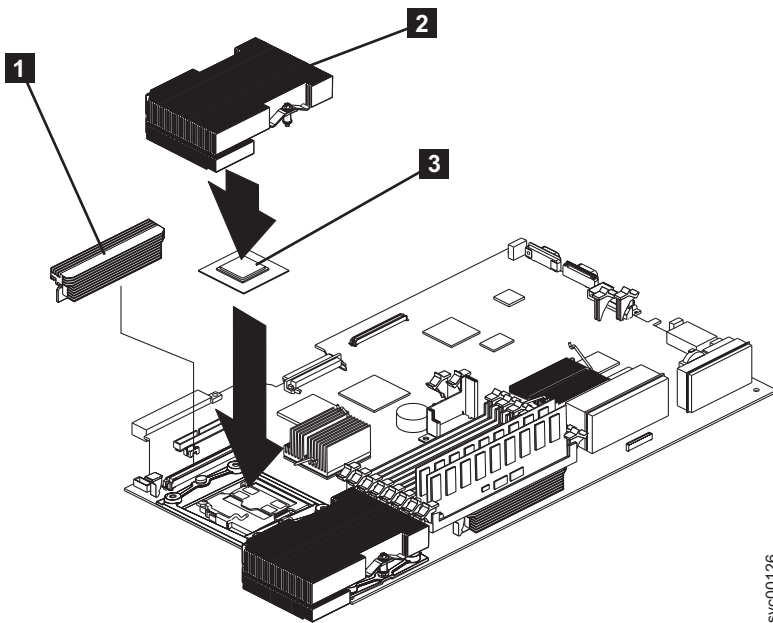

Figure 272. Microprocessor and heat sink locations
7. Install the heat sink **2** on top of the microprocessor **3**, as shown in Figure 272.